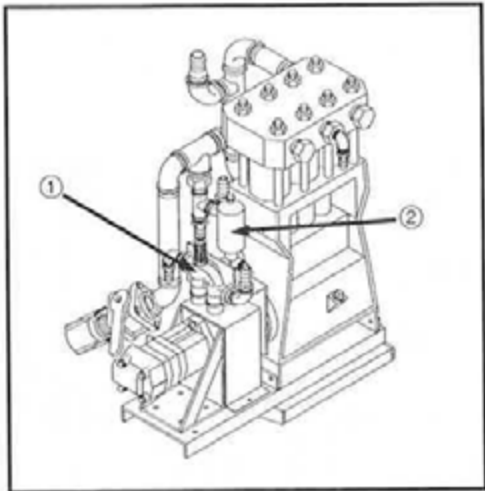
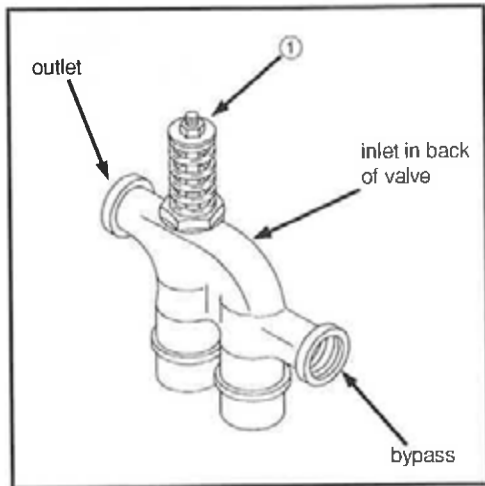

FIG 5.40
FIG 5.41
The unloader (or relief) valve (fig. 5.40, item 1) on your Bean pump protects your spraying system against the shock of sudden pressure surges caused by sprayer shut-offs or clogged nozzles. The pump pressure drops during the unloading cycle, making it easier on the pump and the entire system. Excess liquid is returned to the suction line until the sprayer shut-off is reopened. The pressure in the discharge line after unloader remains at operating pressure during unloading cycle. Unloader valves are adjustable within their pressure range by tightening or loosening the adjusting spring (fig. 5.41, item 1).